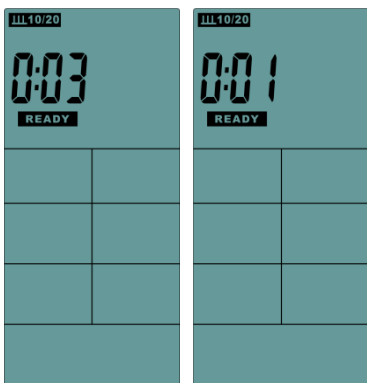
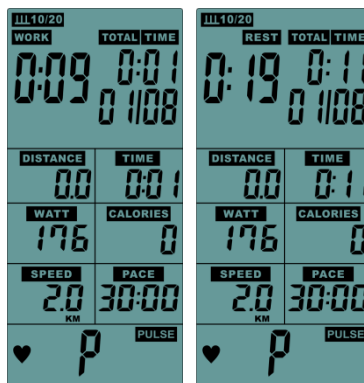
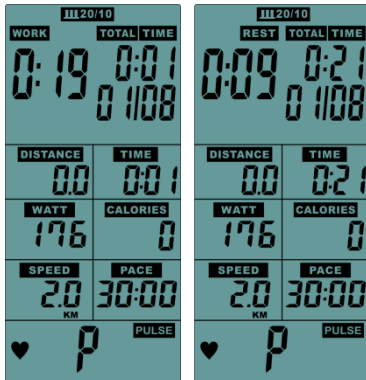

FIG 7
FIG 8
FIG 10
- The "READY" ICON counts down from 3s to 0s , meanwhile with a short buzzer beep (FIG 7), LCD display "01/XX"("01" is flashing). The "WORK" ICON is flashing one time every 1s with buzzer sounds (shining 0.75s/ put out 0.25s) ,"TIME" ICON counts down from 10s to 0s, DISTANCE - CALORIES - WATTS - SPEED - RPM count up according the operation (FIG 8).
- The "READY" ICON counts down from 3s to 0s , meanwhile with a short buzzer beep (FIG 7) , LCD display "01/XX"("01" is flashing) . The "WORK" ICON is flashing one time every 1s with buzzer sounds (shining 0.75s/ put out 0.25s) ,"TIME" ICON counts down from 10s to 0s, DISTANCE - CALORIES - WATTS - SPEED - RPM count up according the operation (FIG 10).